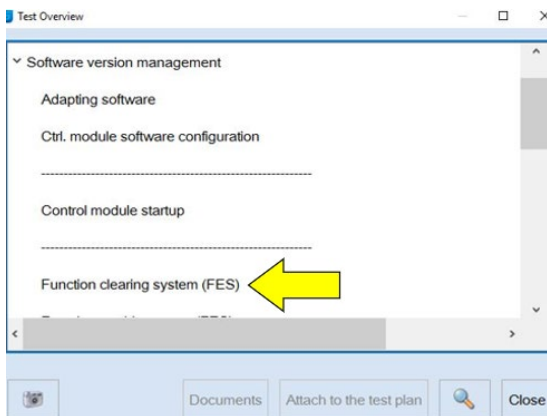

Figure 18: Function enable system (FES)
- Select “Function clearing system (FES)” (see figure 18)